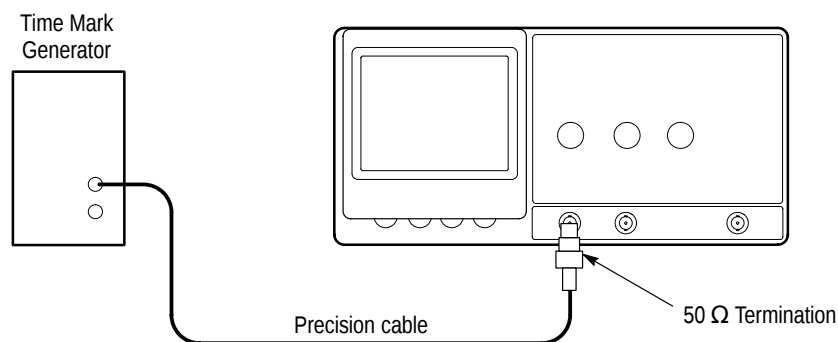

Figure 4: Timing Check Setup
1. Use the 50 Ω precision coaxial cable to connect the output of the time mark generator to the 50 Ω termination; then connect the 50 Ω termination to the TAS 200 series instrument CH 1 input. See Figure 4 below.